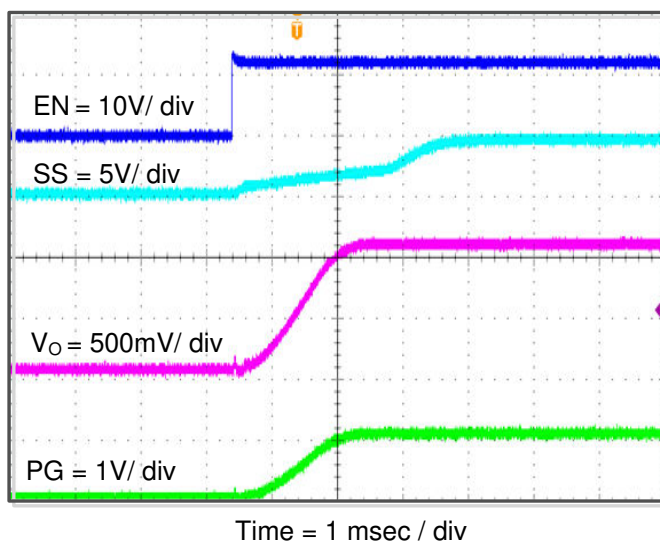

Figure 4-10. TPS562219AEVM-663 Start-Up Relative to EN
The TPS562219AEVM-663 start-up waveform relative to enable (EN) is shown in Figure 4-10. Load = 1 Ω resistive.